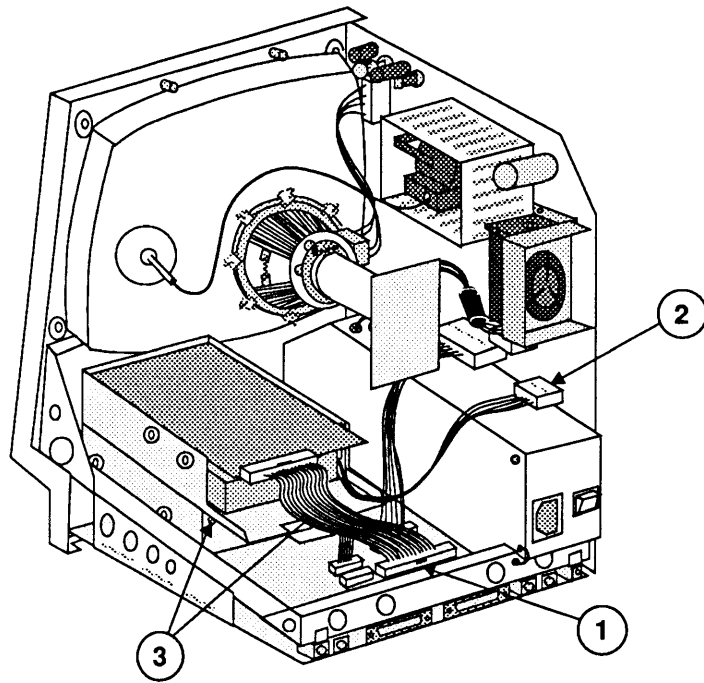

FIGURE 30
Unlike most drives for the Macintosh SE and SE/30, the 1-inch-height drives are oriented PCB-side down in their carriers; thus, when removing the drive, the SCSI power cable will be opposite its location in Figure 30.
4. Disconnect the hard disk drive cable from the main logic board (Figure 30, #1).
5. Disconnect the hard disk drive power cable from the analog board (Figure 30, #2).
6. Remove the two Phillips screws that secure the hard disk drive carrier to the lower drive housing (Figure 30, #3), and lift out the hard disk assembly.
3. Replace the two screws that secure the hard disk carrier to the lower drive housing (Figure 30, #3).
4. Reconnect the hard disk drive power cable to the analog board (Figure 30, #2).
5. Reconnect the hard disk SCSI connector to the main logic board (Figure 30 #1).